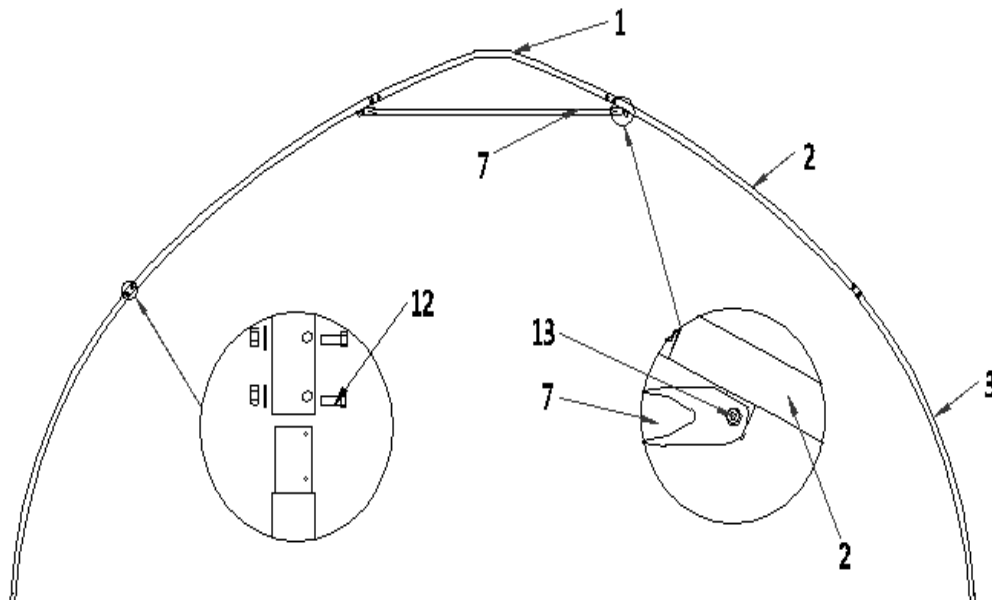

Figure 2
- The shelter includes 10 trusses, connect all tubes with bolt (#12) (refer to figure 2).